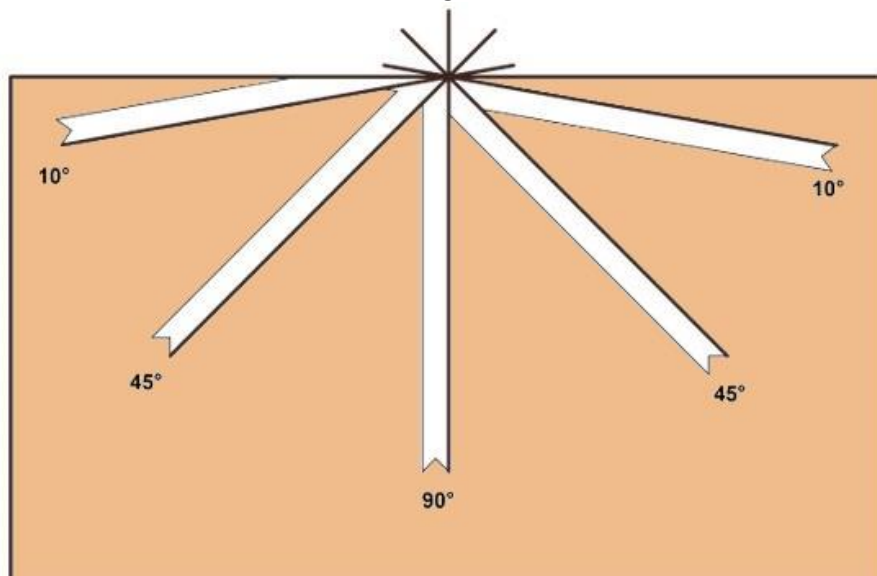

Figure 34, Example of a correct motor alignment test cut
Perform the test cut as shown in Figure 34, following the previous steps but setting the extra angles as required.
9. Check the alignment of the cuts. The points of intersection should all be at the same point at the rear face of the timber, as shown in Figure 34.